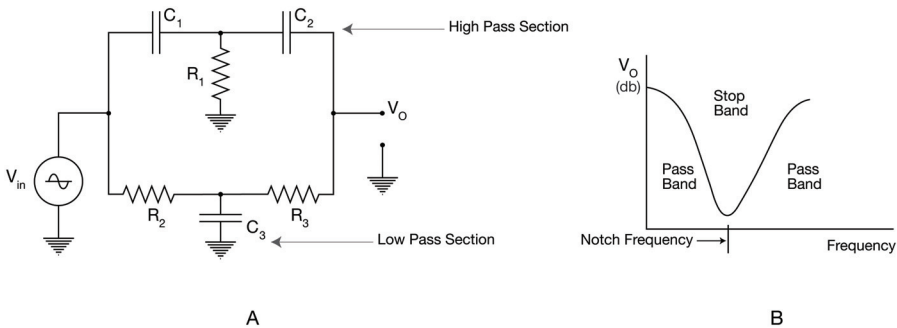

Figure 19.5 Band-stop filters. (a) Band-stop filter circuit configuration. (b) Frequency response curve of band-stop filter.
The circuit diagram of a **band-stop filter** is shown in **Figure 19.5(a)**. It is a combination of low-pass and high-pass filter sections that are connected in parallel with each other. The low-pass filter permits only frequencies below the lower critical frequency (f_{cl}) to pass through it, whereas the high-pass section permits only frequencies above the high critical frequency (f_{cu}) to pass through it. With the parallel circuit connection of the low-pass and high-pass filters and for f_{cu} greater than f_{cl} , the range of frequencies between f_{cl} and f_{cu} are attenuated. The cumulative effect is that there is a range of frequencies that is blocked while others are permitted to go through the band-stop filter. The frequency response of a **band-reject filter** is shown in **Figure 19.5(b)**. The bandwidth of the band-stop filter is the range of frequencies that are blocked, i.e., between f_{cu} and f_{cl} .
Calculate the bandwidth (BW) of a band-stop filter circuit shown in **Figure 19.5**. Assume that the lower critical frequency (f_{cl}) = 1 kHz and the upper critical frequency (f_{cu}) = 2.5 kHz.
Calculate the bandwidth (BW) of a band-stop filter circuit shown in **Figure 19.5**. Assume that the lower critical frequency (f_{cl}) = 15 MHz and the upper critical frequency (f_{cu}) = 15.1 MHz.